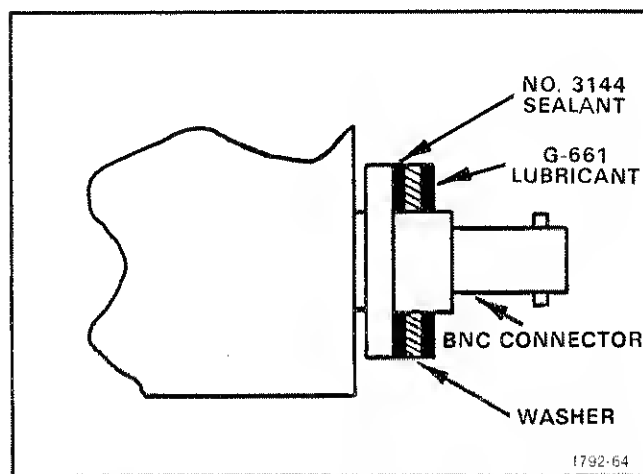

Fig. 5-10. Detail of BNC Connector and Washer.
10. Bonding of washer to BNC type connector that is located on the Main Circuit Board Assembly (see Fig. 5-10)